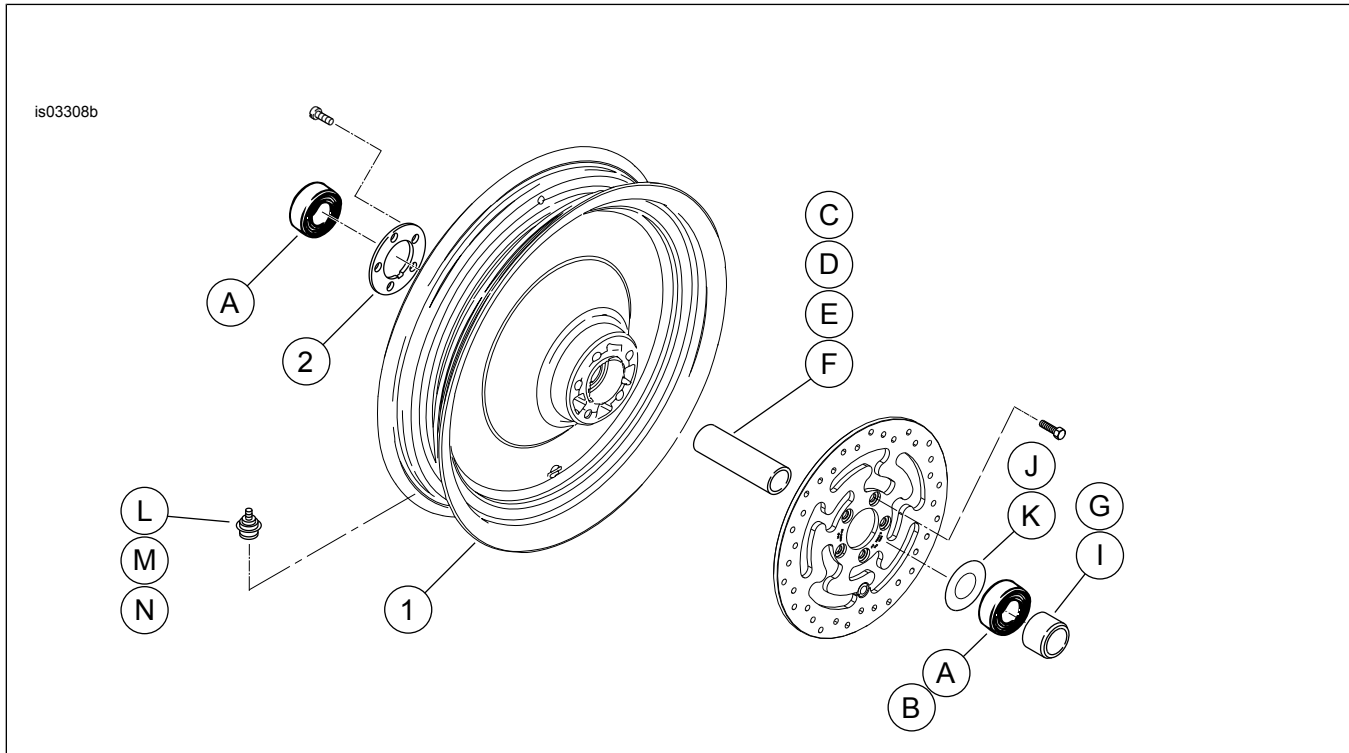

Figure 1. Service Parts: Front Disc Wheels
2. See Figure 1. Install valve stem assembly (L, M or N) on wheel. Refer to TIRES in service manual.